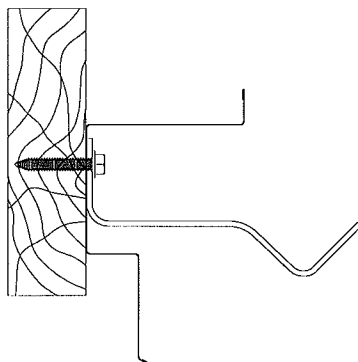

Figure 16
1. Beginning at the pump end of the system, locate the position of the end of the system (end of system is end of pad support in gutter) and install the top cover support sections and the pipe hangers to the top stringer by lining up the top holes of the top cover support sections with the chalkline (refer to Figure 3) on the top stringer. Attach the hangers and the top cover support sections to the stringers with $\frac{1}{4}$ " x $1\frac{1}{2}$ " hex head screws as shown in Figure 16.